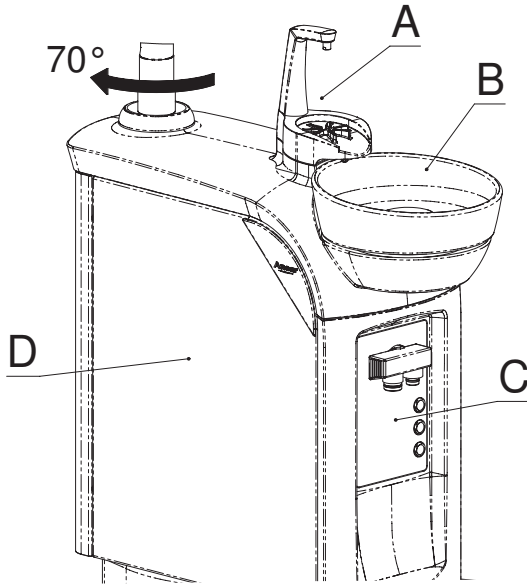

Fig. 8
The water unit has a rotation of **70°** approx. towards the arm support, facilitating the ergonomics of daily use. The upper part holds the cup holder (A) and spittoon (B), made of porcelain to offer high standards of hygiene (fig. 8).
Front panel (C) supports cannula filter, (D) is a lateral door towards Water Unit (fig. 8).